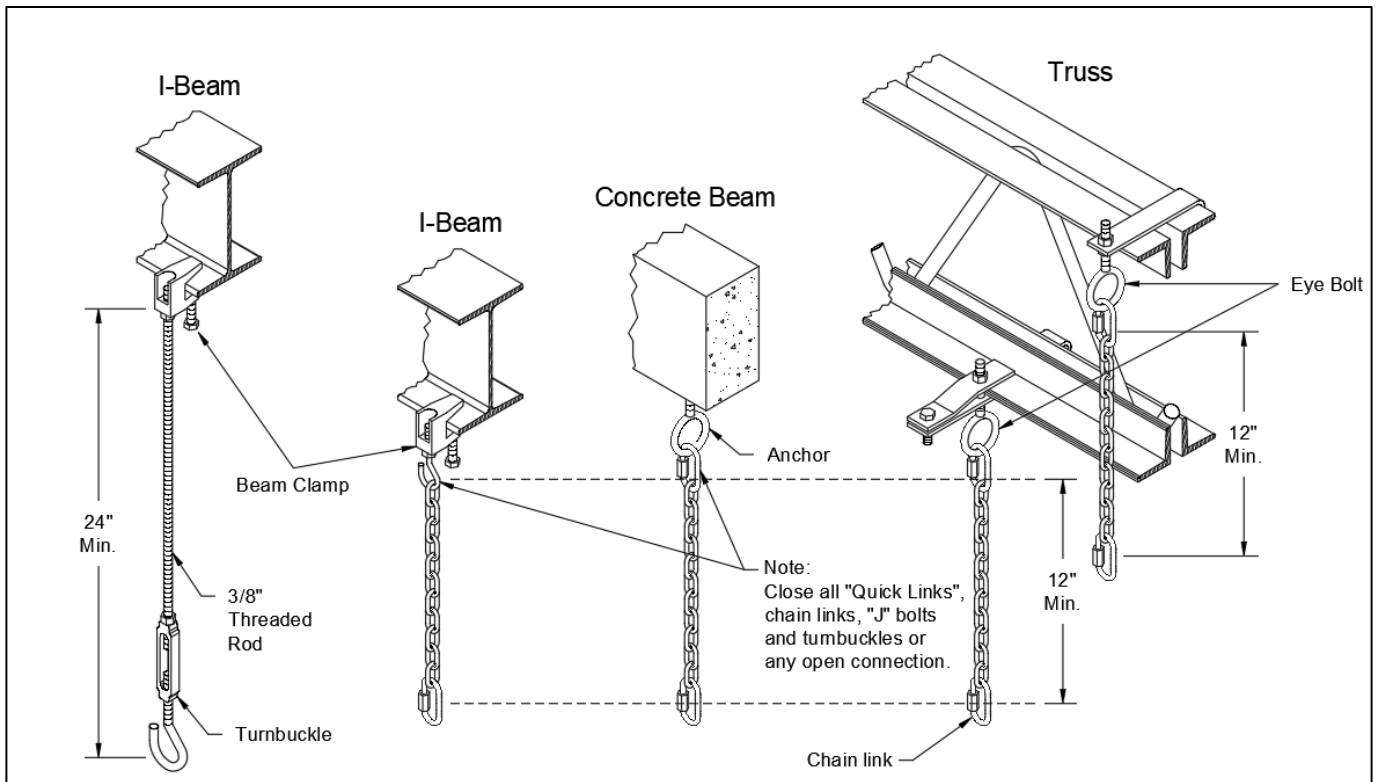
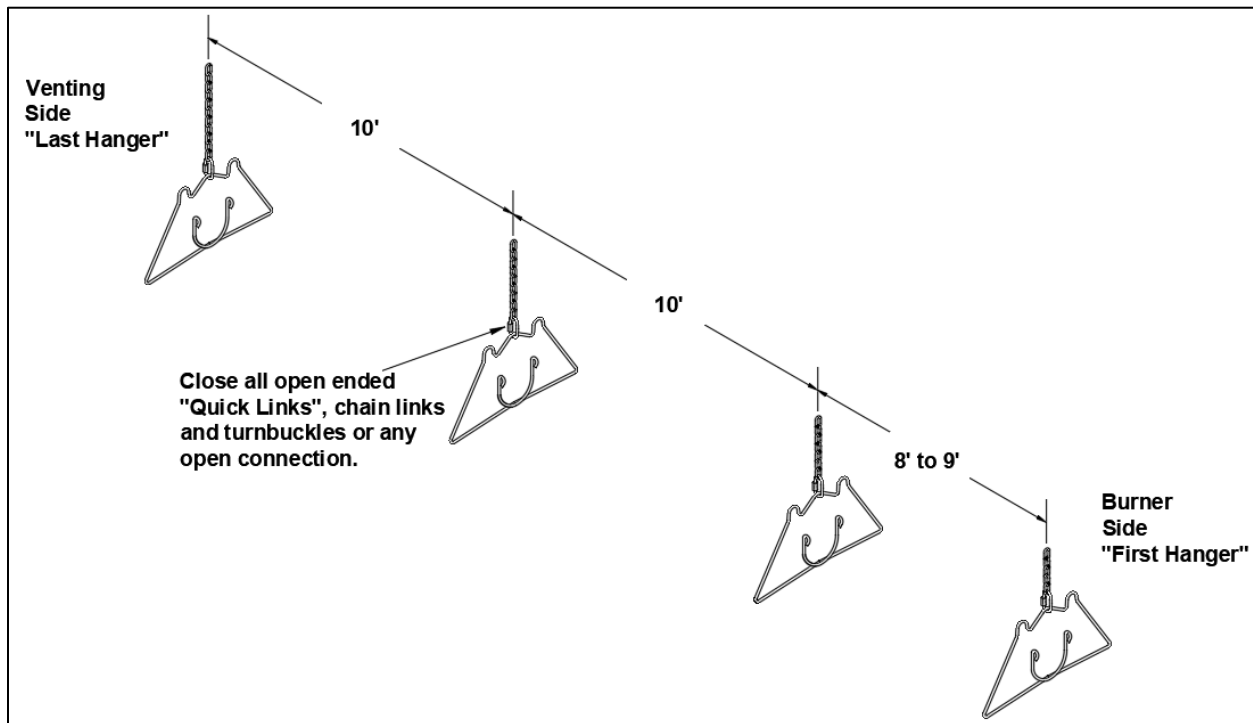

Figure 8: Suspension Mechanism
Figure 9: Typical Hanging Points
- Suspension mechanism must allow for lateral tubing expansion. A minimum 12" length welded link chain with a working load limit of at least 200 lbs. is recommended (refer to Figure 8 for more details). SRP recommends and make available "quick links" for connecting chain. If any open ended turnbuckles are used, the open ends must be closed to avoid unhooking chain with inadvertent contact.
- Locate hanging chain at predetermined suspension points in the structure. It is required that the first 2 hangers be about 8' to 9' away. Thereafter, 10' apart on average is acceptable for the remainder of the heat exchanger. At no time should hangers be more than 12' apart, (see Figure 9).
- Install the tube and reflector support hanger on the chain with Quick Links refer to Figure 8 & Figure 9